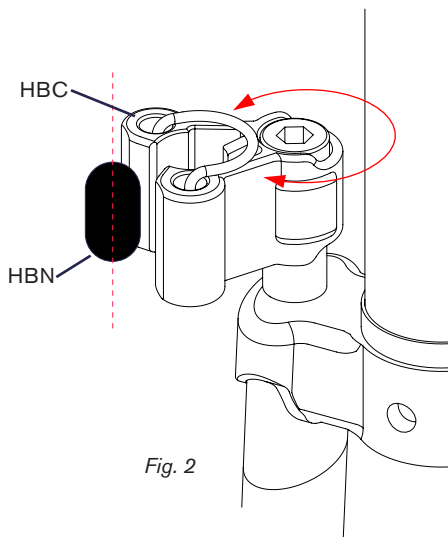

Fig. 2
- Alignment of the catch HBC; the catch itself must be aligned so that the nipple enters centrally (fig. 2)
- Alignment of the nipple HBN; this should be vertical and in line with the catch HBC (fig. 2) as it enters during folding